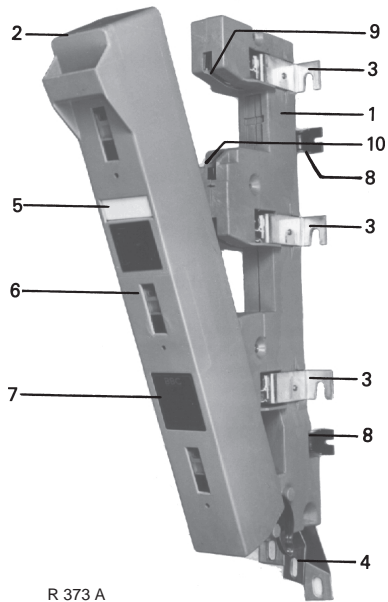

Fig. 3
The apparatus may be mounted on racks and boards and in cabinets by means of the mounting feet (see Fig. 3 pos 8 and the dimensional drawings).
- SLBM( fig. 3)